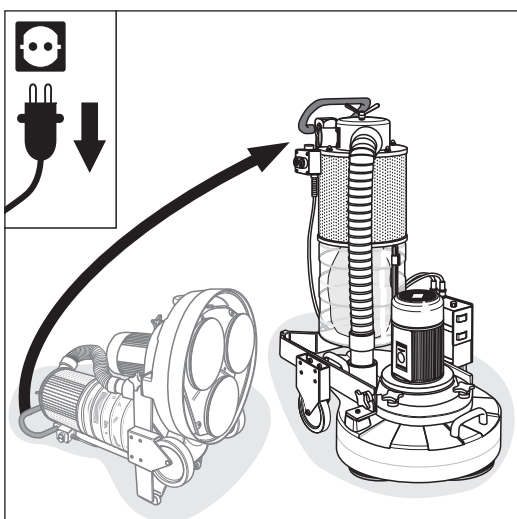

Fig. 29 Bring the machine back into vertical position.
- 2 Bring the machine back into vertical position so that the sanding plates are resting flat on floor surface (fig. 29).
- 6 Bring the machine back into vertical position so that the sanding plates are resting flat on floor surface (fig. 29).